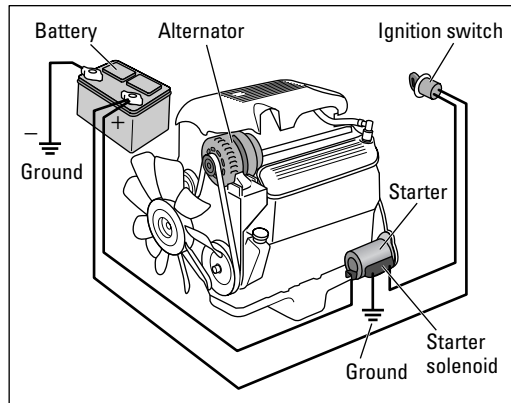

Figure 4-2: The starting system.
1. When you turn the key in your vehicle's **ignition switch** to Start or activate the ignition by pushing a button, you close a **circuit** that allows the current to pass from your **battery** to your **starter** via the **starter solenoid switch** (see Figure 4-2).